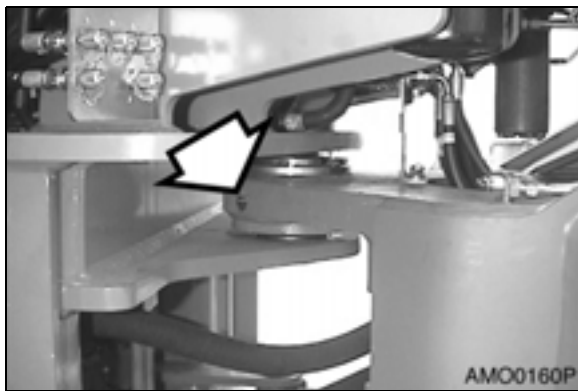
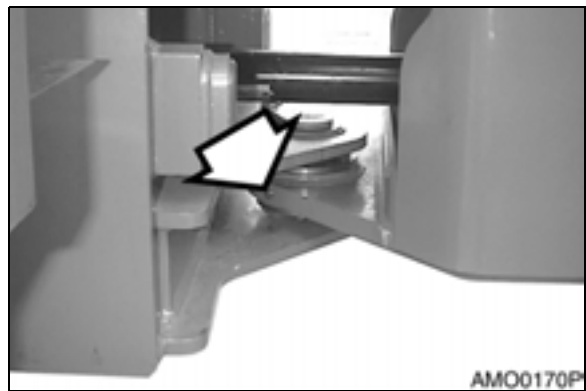

Figure 47
Figure 48
- Center pins, Upper (Figure 47) and Lower (Figure 48). Two locations on each side of machine.